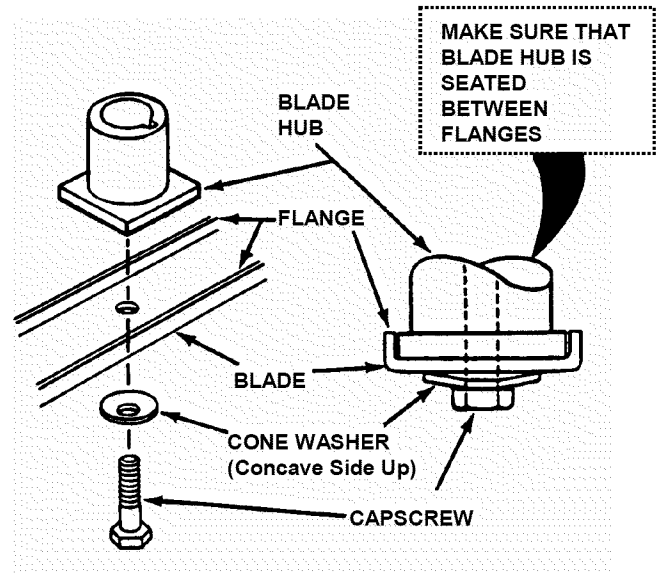

FIGURE 4.2
3. Remove blade. See Figure 4.2.
6. Reinstall blade. Refer to Figure 4.2. Check torque of blade retaining cap screw. Recommended torque should be 30 to 40 ft. lbs.